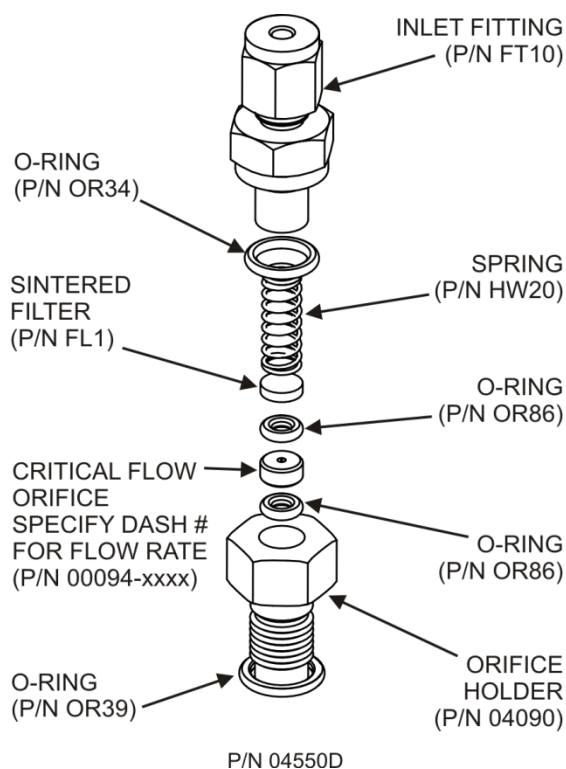

Figure 6-9. Critical Flow Orifice Assembly
8. Using a new filter and o-rings, reassemble the parts as shown in Figure 6-9.